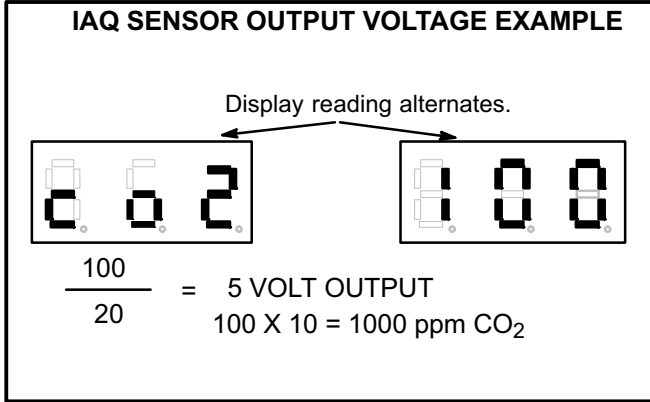

FIGURE 59
- 2- Toggle pushbutton until c02 reading is alternately flashing with an output reading. Figure 59 shows an output reading of 100.
- 3- Divide output reading by 20 to get IAQ sensor output voltage. See figure 59.